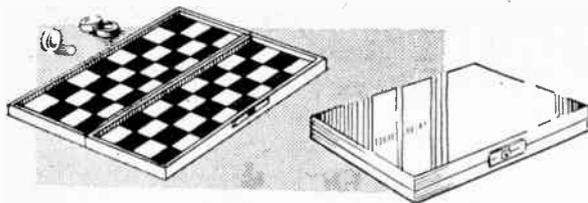

Fig. 1—The board completed
DETAIL OF FIGURES 1/4" SQAURES
The general scheme of decoration is clear from the sketch (Fig. 1), but the choice of colour and finish—matt or gloss—is largely a matter of personal taste. The following scheme was applied to the prototype model and was found to give a pleasing effect:—
**T**HE handy combined draughts board and box shown in the illustration Fig. 1, would be useful to the home player as well as to the traveller.